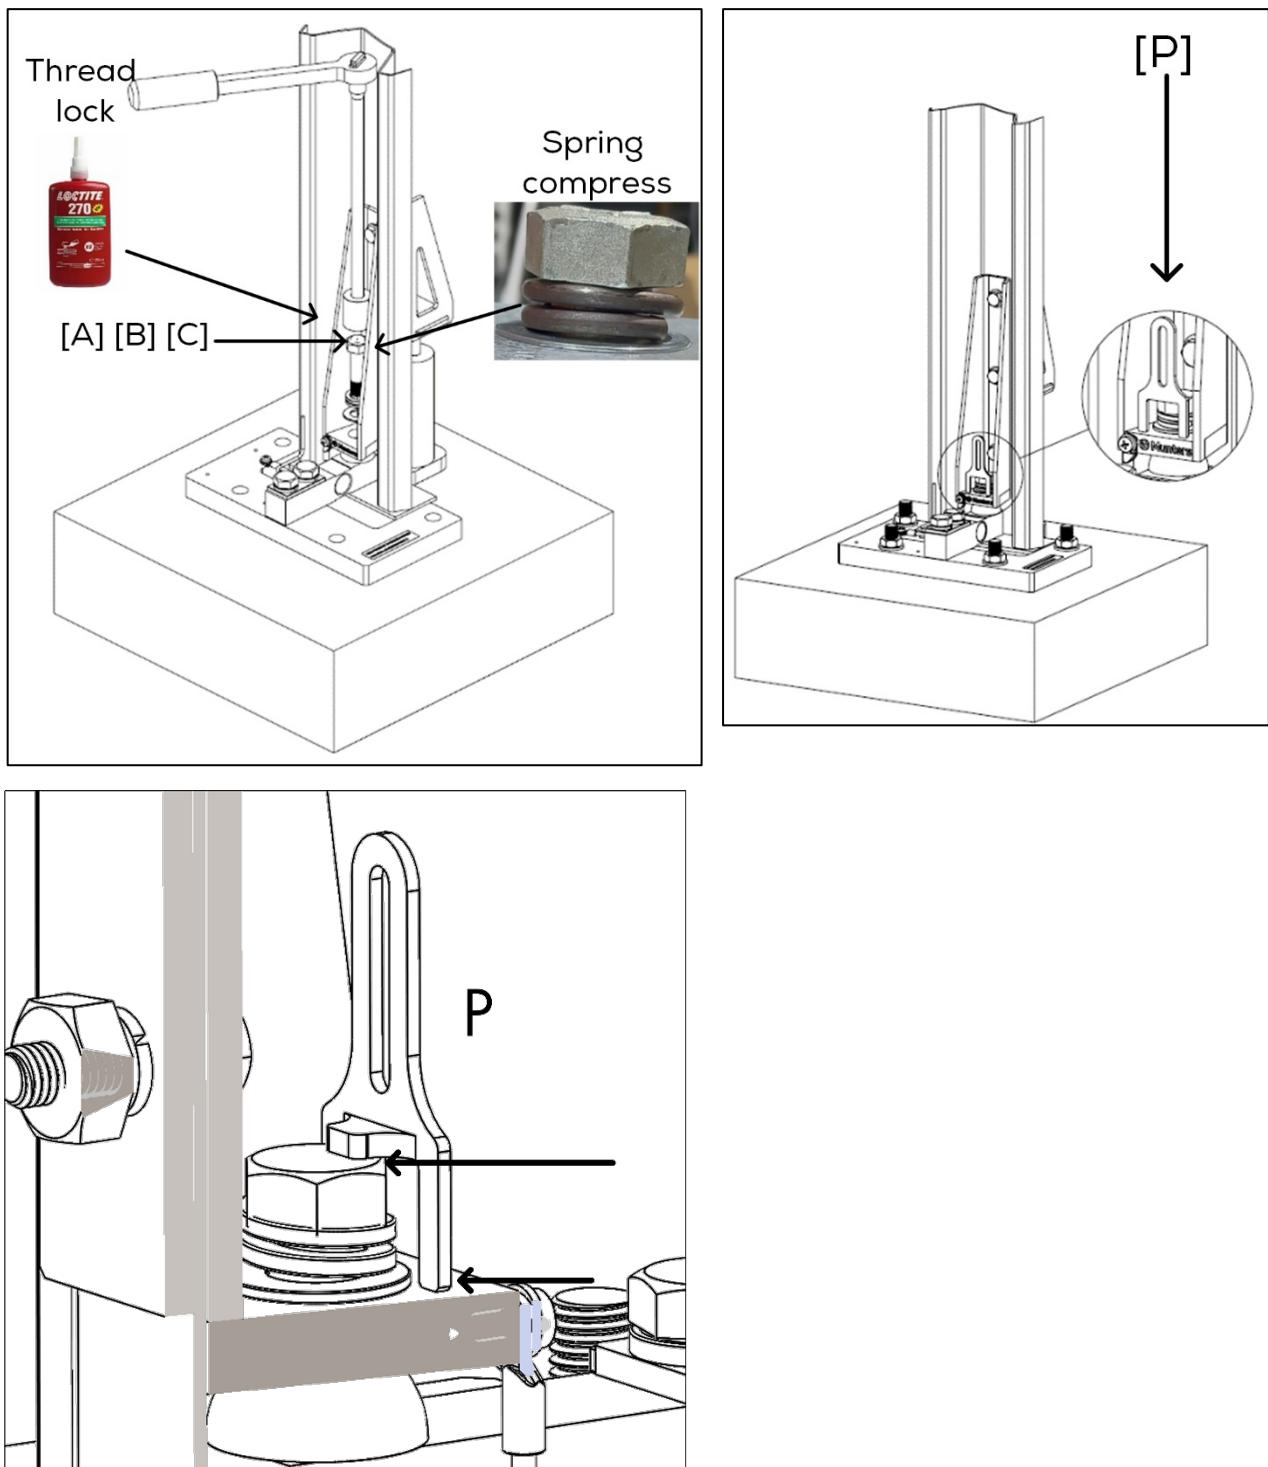

Figure 20: Securing the hex bolt
9. Hex bolt assembly (Figure 20):
- e. Using socket extensions and the gauge tool (Q), fine tune the spring compress. The gauge tool shows when the bolt has been properly tightened; when you place the gauge on the bolt, the fork should just touch the bolt assembly.